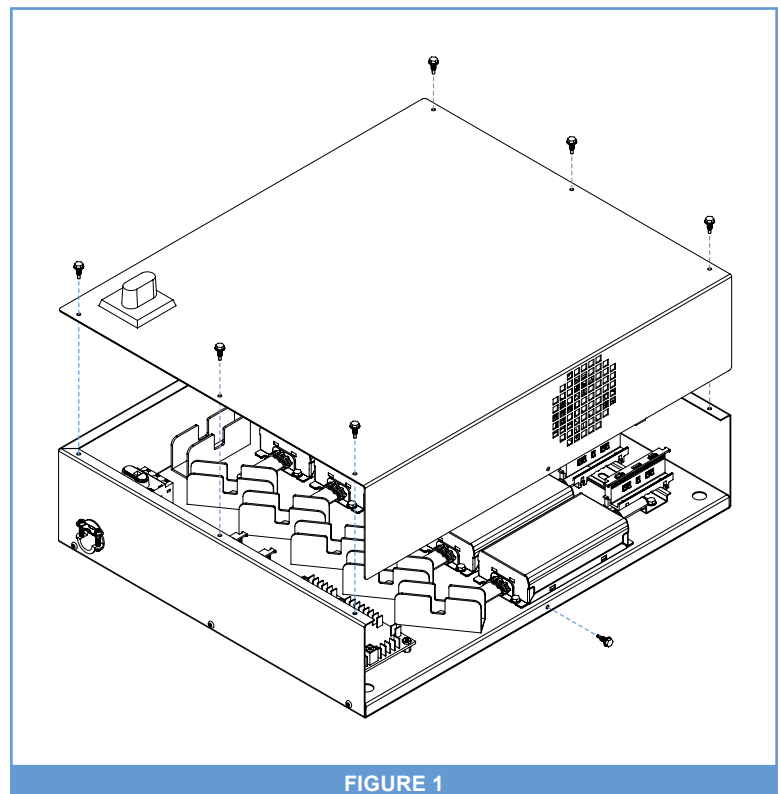

FIGURE 1
4. Using a power screw driver with a 1/4" Hex Head Driver bit, remove seven (7) screws securing the Hub cover in place. Once free, lift the cover off to gain access to the internal wiring (**FIGURE 1**).
8. Replace Hub cover, and use a power screw driver with a 1/4" Hex Head Driver bit to replace the seven (7) screws and secure it back in place.